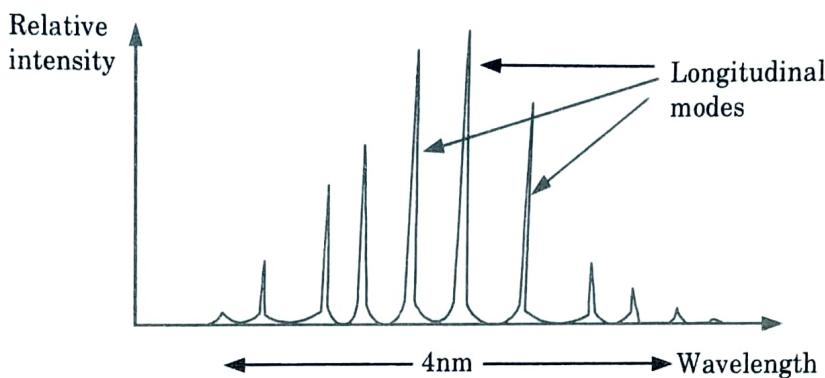

Fig. 3.18.1. Laser modes.
1. The typical output spectrum for a broad area injection laser is shown in Fig. 3.18.1. It does not consist of a single wavelength output but a series of wavelength peaks corresponding to different longitudinal (in the plane of the junction, along the optical cavity) modes within the structure.